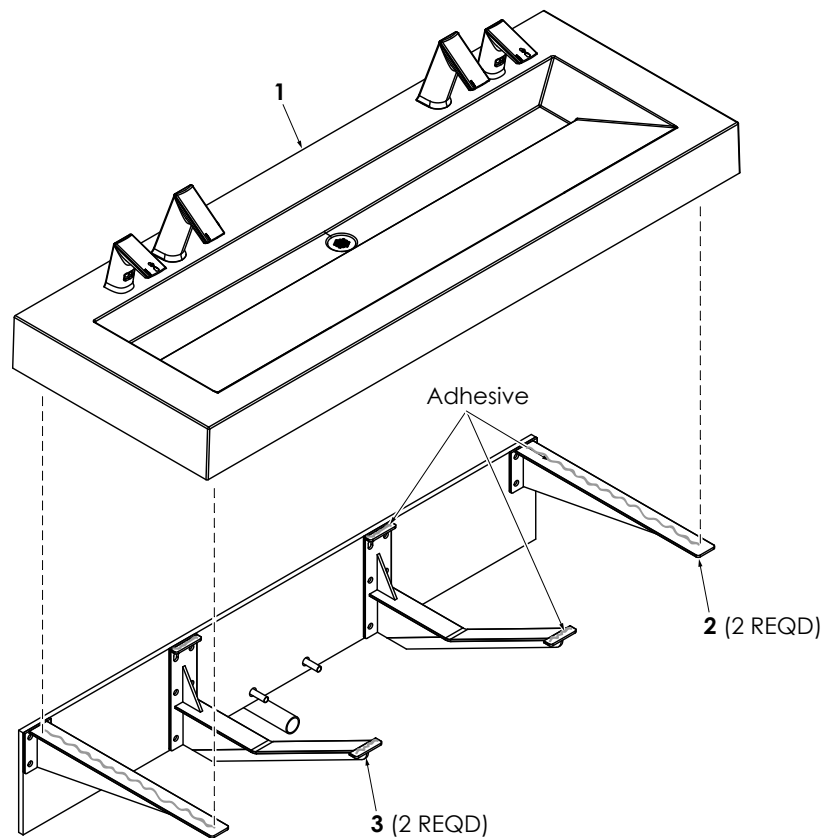

Figure 13
6. Install Deck (1, Figure 13) onto Side Brackets (2) and Middle Brackets (3).